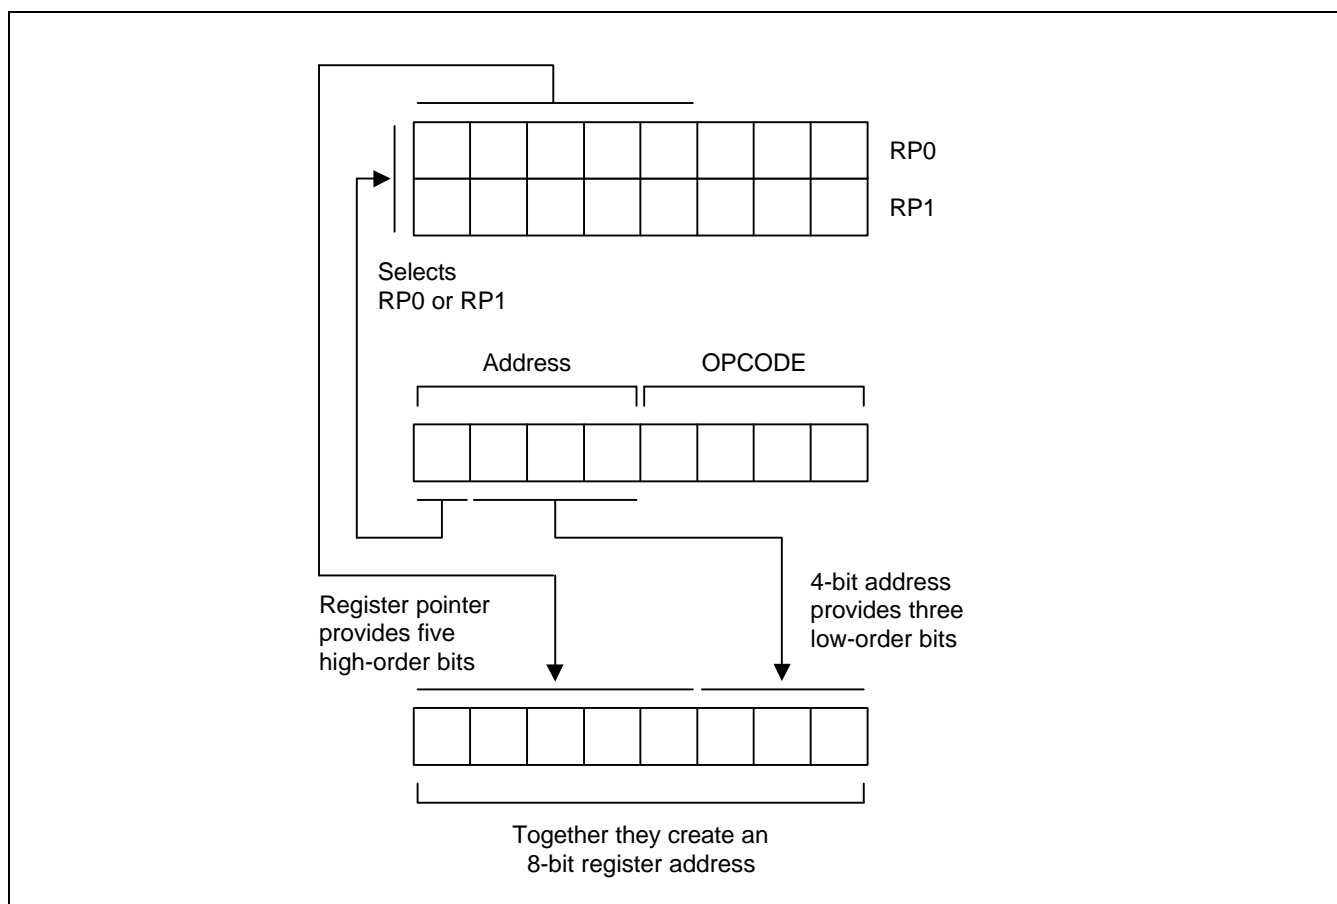

Figure 2-14. 4-Bit Working Register Addressing
Figure 2-14 shows an example of 8-bit working register addressing: the four high-order bits of the instruction address (1100B) specify 8-bit working register addressing. Bit 4 ("1") selects RP1 and the five high-order bits in RP1 (10101B) become the five high-order bits of the register address. The three low-order bits of the register address (011) are provided by the three low-order bits of the 8-bit instruction address. The five address bits from RP1 and the three address bits from the instruction are concatenated to form the complete register address, 0ABH (10101011B).